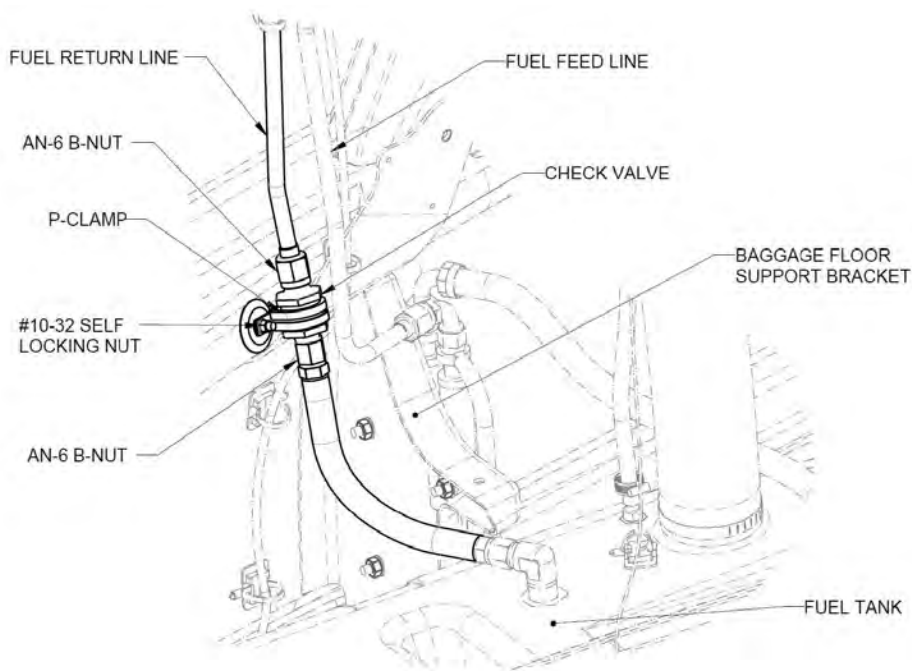

FIGURE 10-28
6. Remove the #10-32 Self-Locking Nut from the P-Clamp. (See Figure 10-28.)
5. Secure the P-Clamp with a #10-32 Self-Locking Nut. (See Figure 10-28.) Torque to 20 in-lbs.